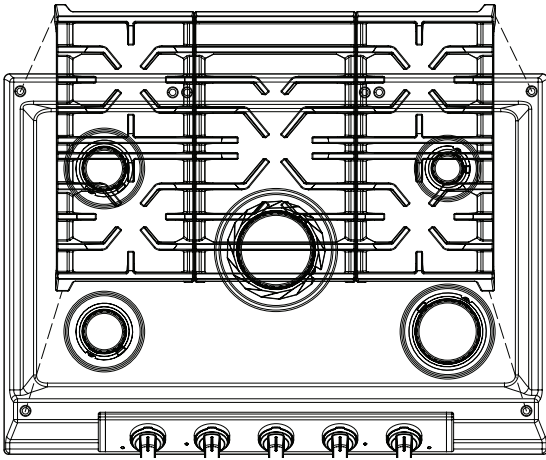

Figure 5: Grate installation
- Make sure the burner grates are properly placed on the cooktop before using the surface burners (Figure 5). The grates are designed to rest inside the recess on the cooktop.